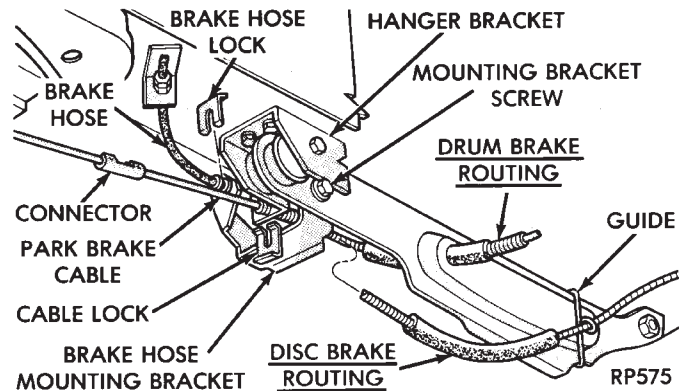

Fig. 13 Brake Hose Bracket & Park Brake Cable
(5) Position brake hose mounting bracket to trailing arm, install and tighten retaining screw to 11 N•m (95 in. lbs.) torque (Fig. 13).
(6) Attach park brake cable housing to hanger bracket and cable to connector.